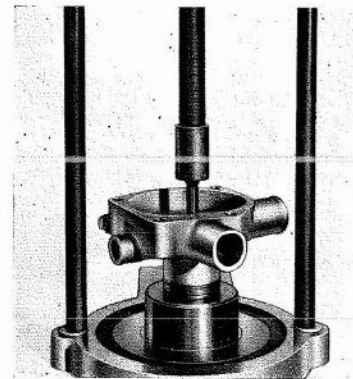

Fig. Q.4.
5. Employ tool No. T.7000 to press out the bearings and distance piece as shown in Fig. Q.4.